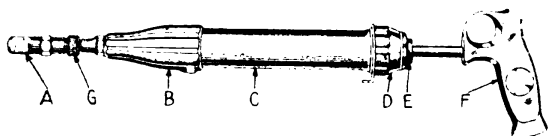
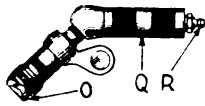

Figure 81
Figure 82
(Refer to Figure 81)
(1) Slide the sleeve "Q" of the pin type adapter (Figure 82) back until the hydraulic fitting "R" is exposed.
(2) Attach the coupling "A" (Figure 81) to the fitting "R" of the adapter (Figure 82).
(3) Slide the sleeve "Q" of the adapter over the coupling "A" until it can go no further.
(4) Clean pin type fitting.
(5) Attach the coupling "O" to the pin type fitting.
(6) Work the handle "F" (Figure 81) in and out until the bearing is lubricated.
(7) If no lubricant reaches the bearing, remove the coupling "A" from the fitting and work the handle "F" rapidly in and out until the air pocket is eliminated.
(8) In order to disconnect the coupling from tight bearings, slide the sleeve "Q" back and pull the coupling to one side. This breaks the contact between the jaws of the coupling and the fitting "R". The pin type adapter can then be easily removed.